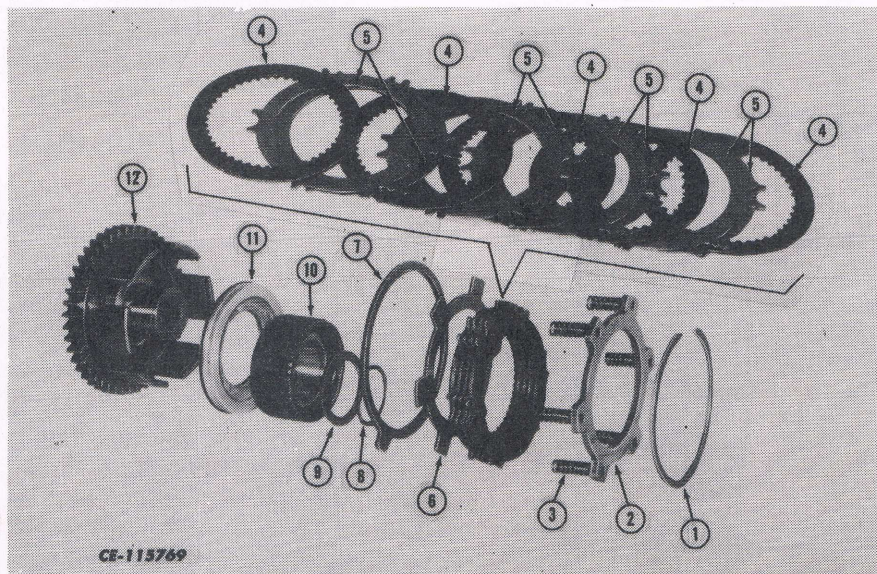

Fig. 14
3. Install thrust washer (9, Fig. 14) with snap ring (8) to clutch cup gear.
4. Install the brake ring (7) and piston return plate (6).
5. Install the clutch driven discs (4), and between each driven disc, install two clutch driven plates (5).
6. Install the backing plate (2) with the six return springs (3).